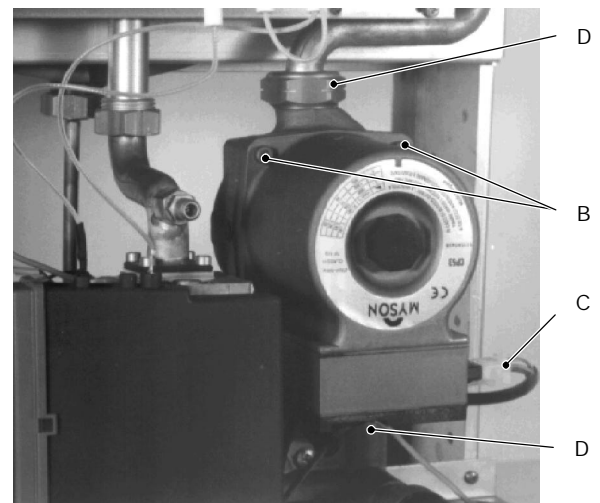

fig. 21
If the clearance to the right side of the boiler is restricted, the removal of the pump can be easily achieved by first removing the head by unscrewing the four Allen keys screws (B in fig. 21, the two on the upper side indicated).
- 3 Disconnect the connector C (fig. 21).